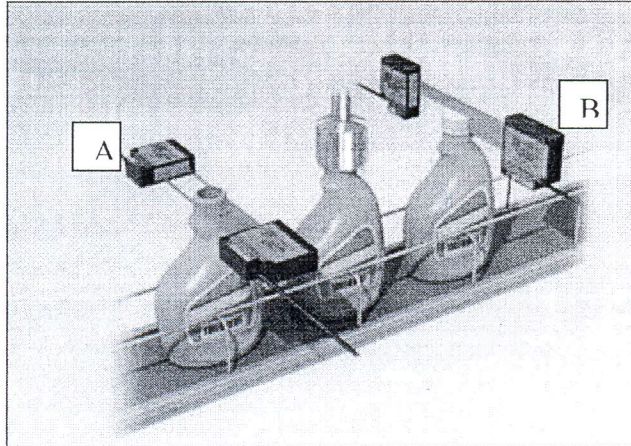

Figure 5: Head capping production line
- (a) **Figure 5** shows an automatic single head capping production line. Answer the following questions based on this figure.